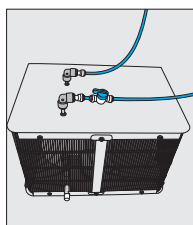

Figure 34
- 1.8 Turn on the water supply and allow water to flow uninterrupted through faucet for at least 3 minutes into the sink to ensure total flushing of the system (Figure 34 and Figure 35).